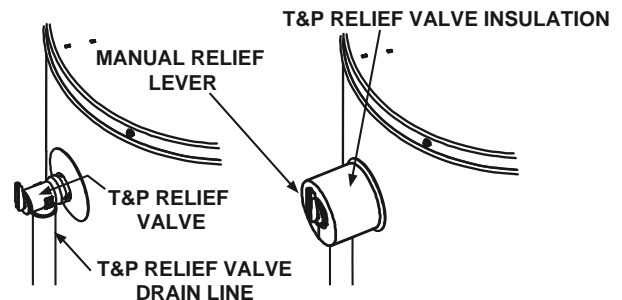

FIGURE 16.
1. Locate the temperature and pressure relief valve on the water heater (also known as a T&P relief valve). See Figure 16.
3. Spread the slit open and fit the insulation over the T&P relief valve. See Figure 16. Apply gentle pressure to the insulation to ensure that it is fully seated on the T&P Relief Valve. Once seated, secure the insulation with duct tape, electrical tape, or equivalent. **IMPORTANT:** The insulation or tape should not block or cover the T&P relief valve drain opening. Also, the insulation or tape should not block or hinder access to the manual relief lever (Figure 16). Ensure that a discharge pipe is installed into the T&P valve discharge opening per the instructions in this manual.